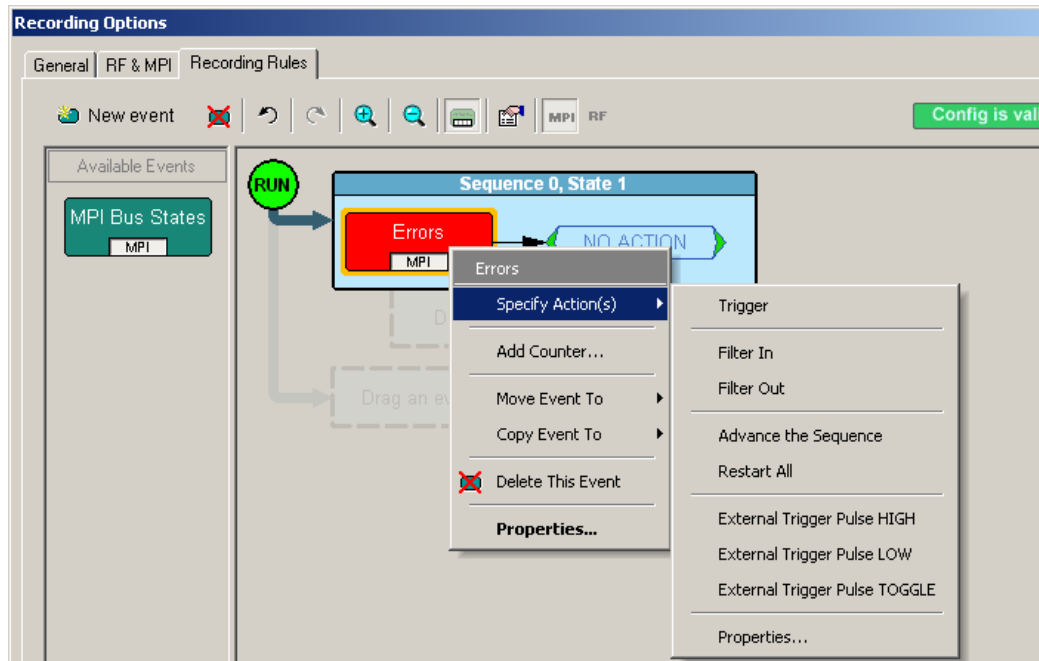

Figure 7.13 Selecting Action From Event Button Pop-Up
Step 1 Right-click the Event button to display a pop-up menu (Figure 7.13).